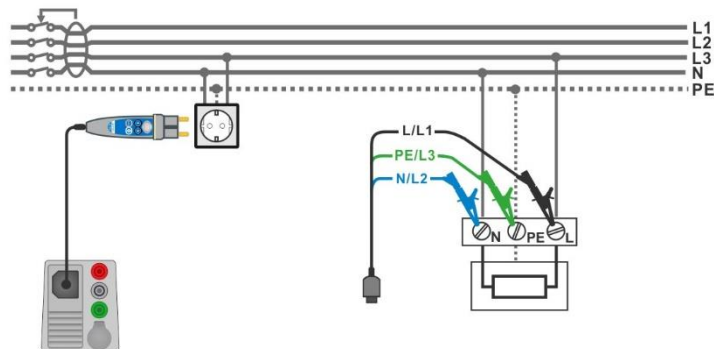

Figure 7.68: Z auto measurement
- Connect 3 wire - test lead or Plug commander to the object under test, see **Figure 7.68**.